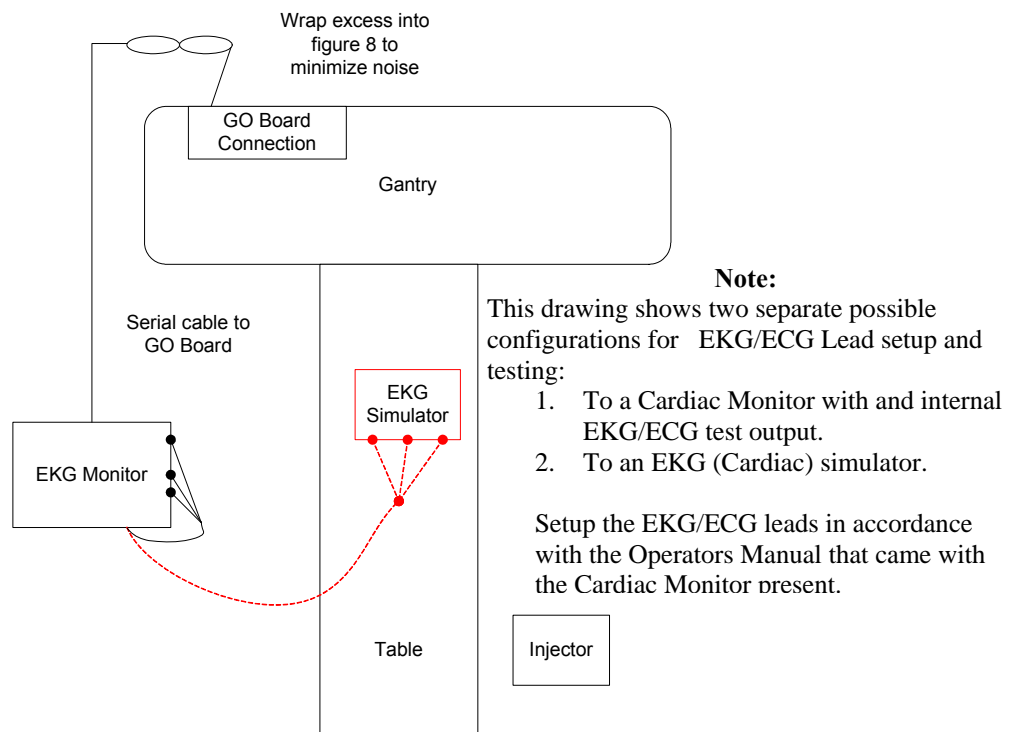

FIGURE 3-2: TWO DIFFERENT EKG/ECG LEAD CONNECTIONS
3. Connect the EKG/ECG Leads to the test output of the Cardiac Monitor or connectors of the Cardiac heartbeat simulator. If using a simulator, turn on the cardiac heartbeat simulator and set the heart rate to between 60 and 80 bpm (beats per minute). Refer to Figure 3-2 for the possible variations of EKG/ECG lead setup.